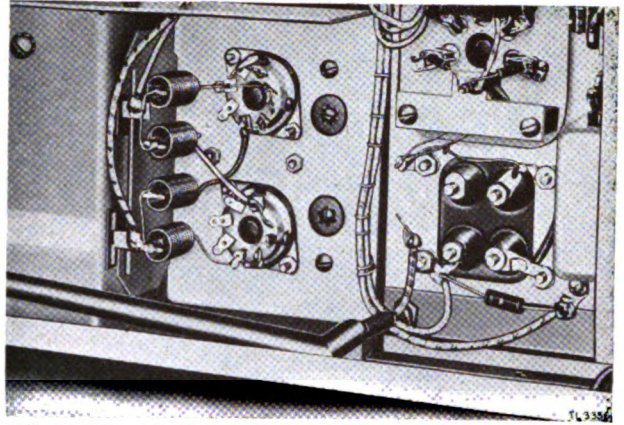

Figure 198. Radio Receiver and Transmitter BC-1267-A, transmitter-oscillator tube, shield removed.
**f. CHOKES AND SPARK PLATES.** To replace heater chokes 114-1 to 114-4 and heater spark plates 27-1 and 27-2, it is necessary to remove the bottom shield cover. Remove the two screws from the clamps which hold the high-voltage lead shield tubing to the bottom of the r-f oscillator unit box. Remove the two screws which hold the shield for the high-voltage terminals on modulator transformer 119. Disconnect the high-voltage lead from terminal 4 on modulator transformer 119. Remove the three screws on the side of the oscillator box which hold the shield for the tube sockets and chokes to the oscillator box (see fig. 198). Assemble in reverse order.